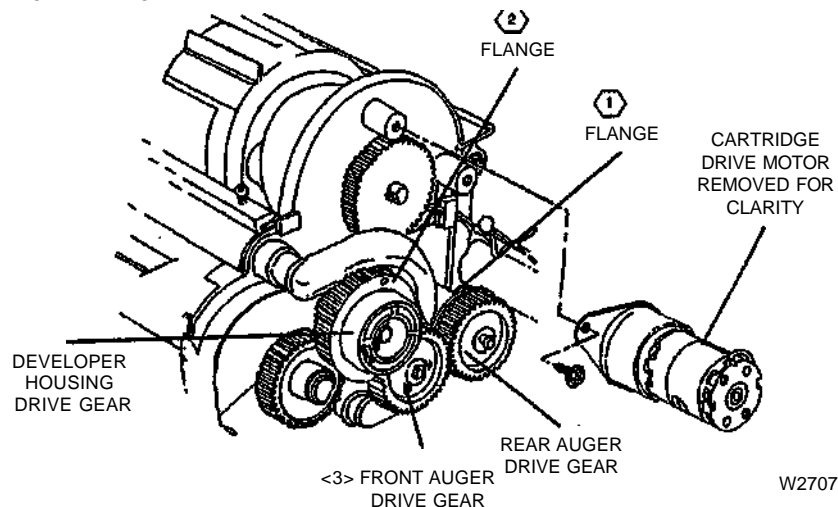

Figure 2. Developer Housing and Auger Drive Gears
- Ensure that the Developer Housing Auger and Drive Gears are not damaged and are installed correctly (Figure 2).